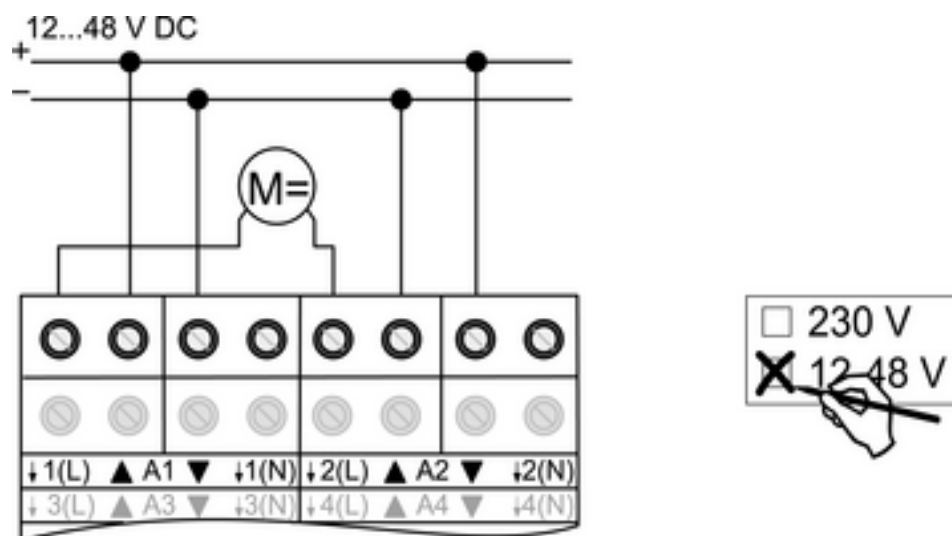

Figure 6
- Connecting the motors (Figure 6).
- Mark **12-48 V** use on label (Figure 6).